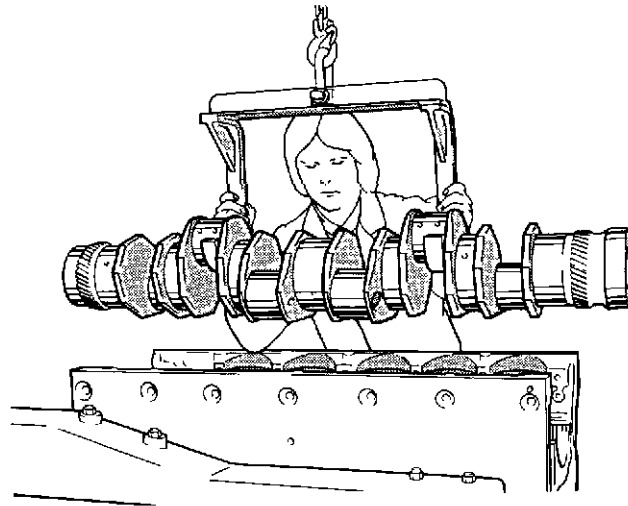

Fig. 2 Fitting crankshaft
- 3 Liberally oil the main bearing journals of the prepared crankshaft assembly and, using the Lifting Beam, VP 666, lower the assembly into the crankcase (fig. 2), so that the 16 tapped holes in the end face of the shaft are facing outwards, i.e., at the gear train end of the crankcase.